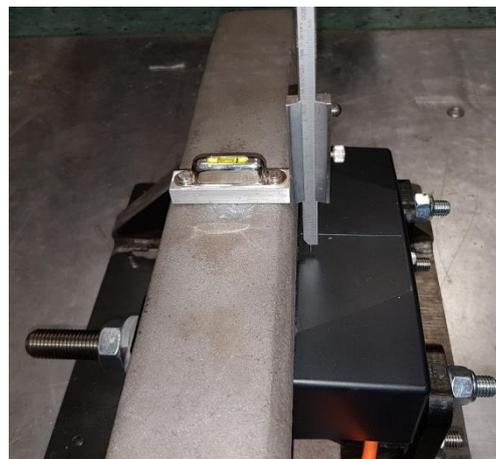
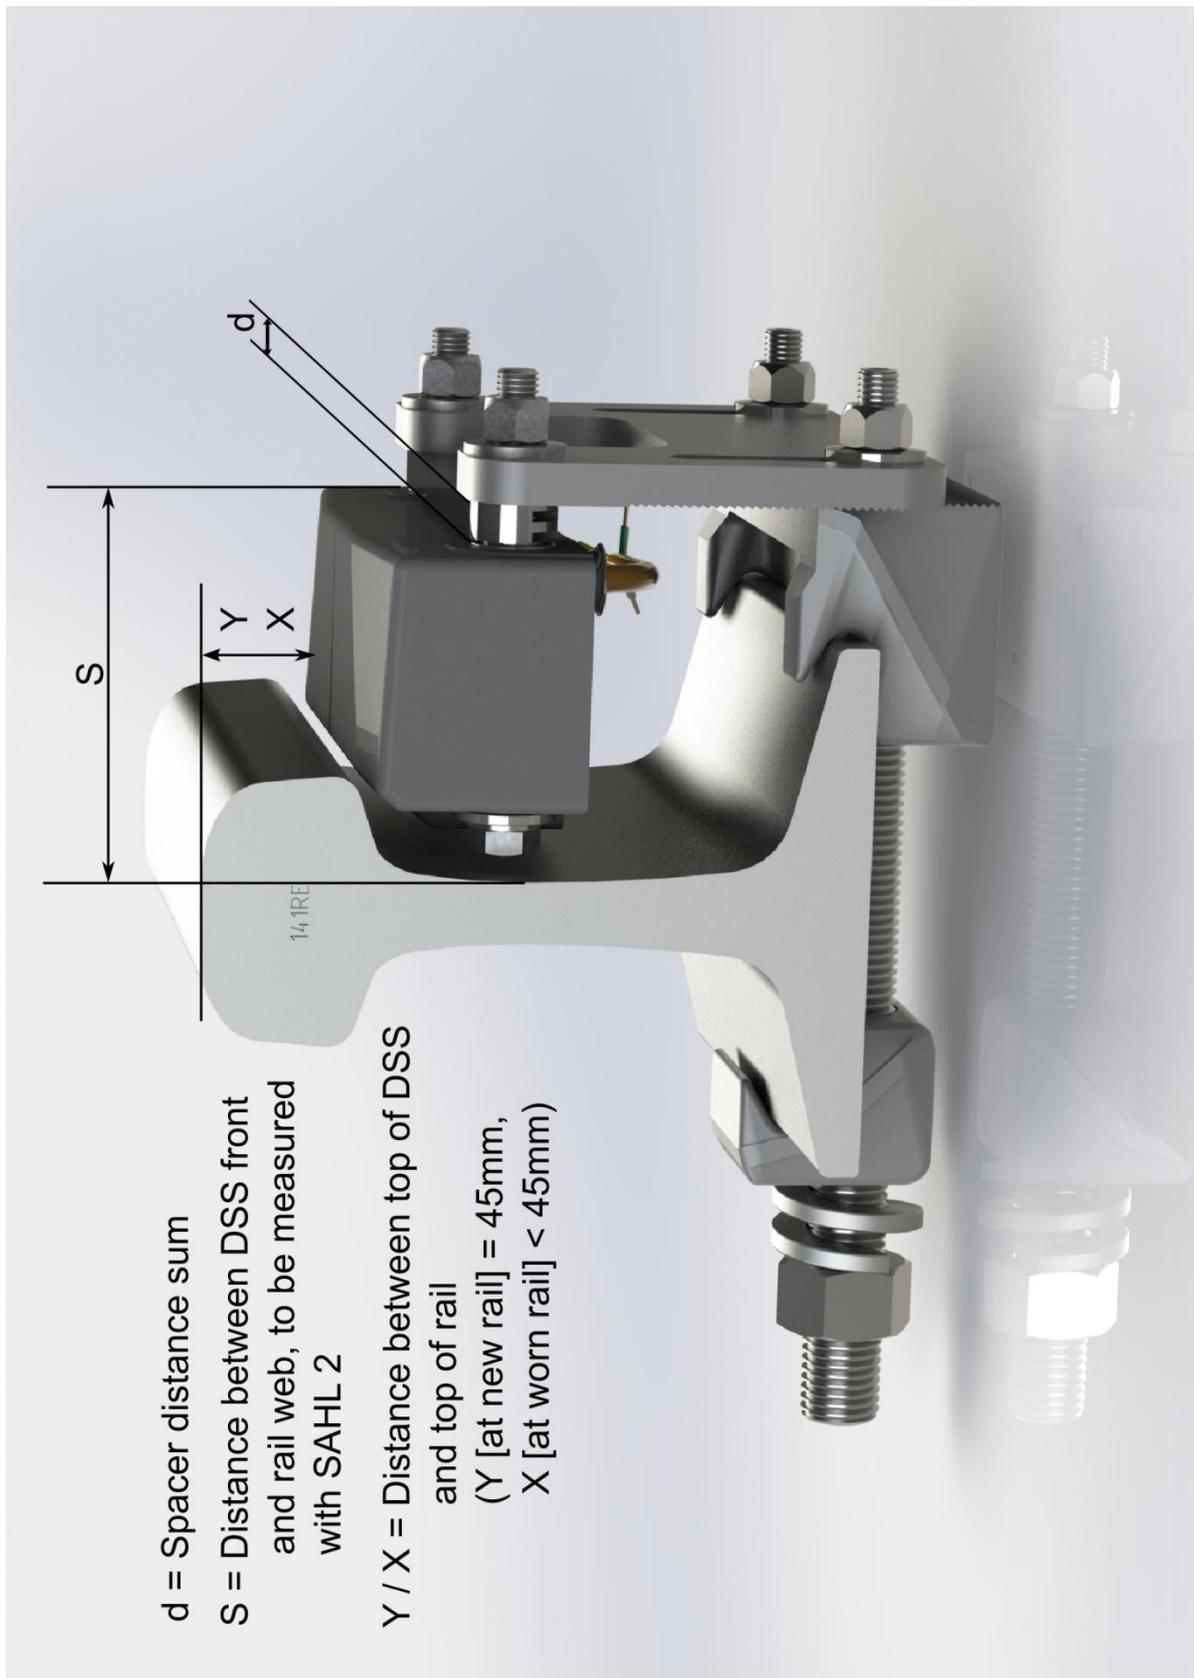

Figure 10: Measure Y (X) with gauge SAHL 210
Figure 11: Installation Drawing11
- The distance Y [X when rail is worn] (cf. figure 10 and figure 11) from the upper edge of the DSS to the upper edge of a new rail is 45 mm ( $\pm 1$  mm) for each DSS type and can be measured with a SAHL 2 (taking care that the gauge is positioned rectangular from the highest point on the upper side of the rail) Figure 10: Measure Y (X) with gauge SAHL 2 Figure 11: Installation Drawing 11